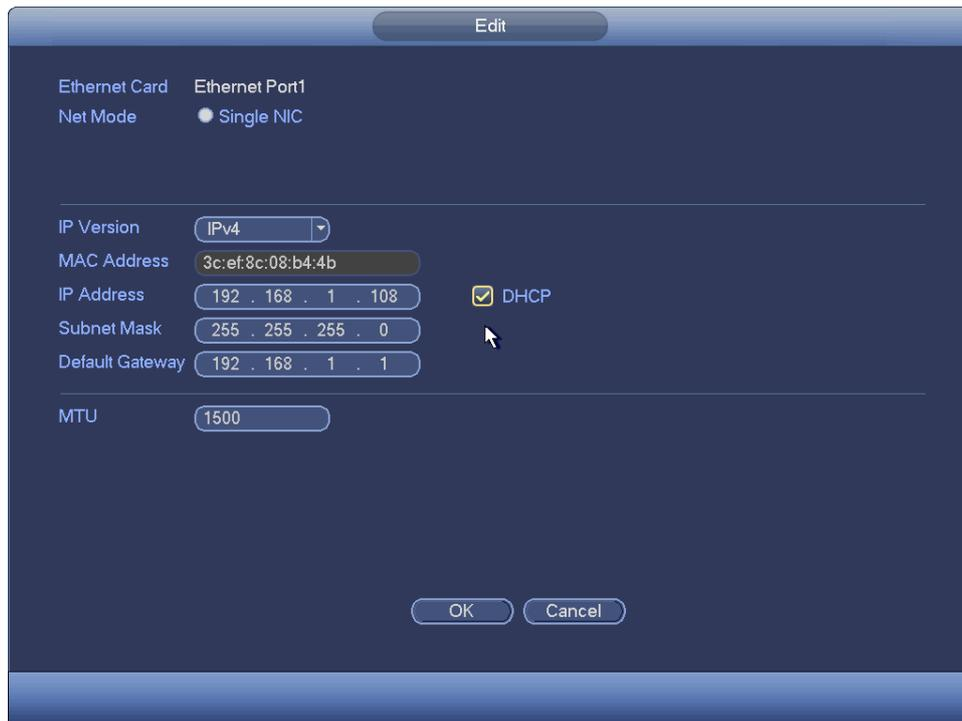

Figure 2-16
Step 2 Click , device display edit interface. See Figure 2-16.